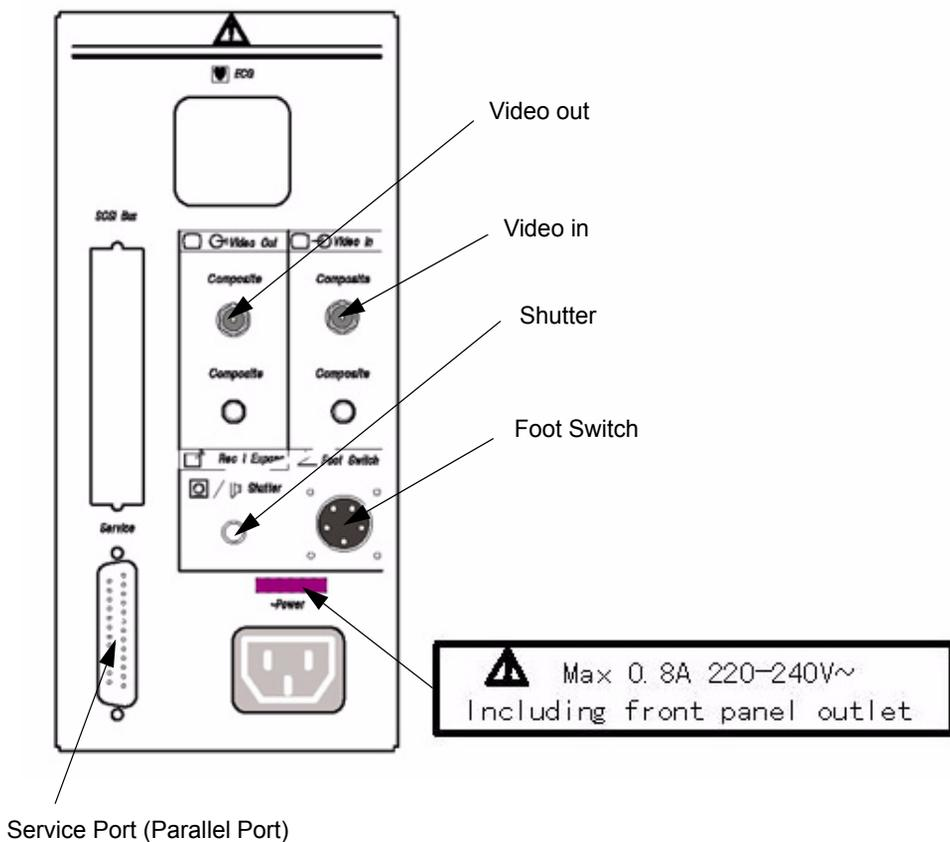

Figure 3-20 Installation of Accessories
- 1.) Unpack the foot switch and connect it to the connector on the rear panel. (Refer Figure 3-20)